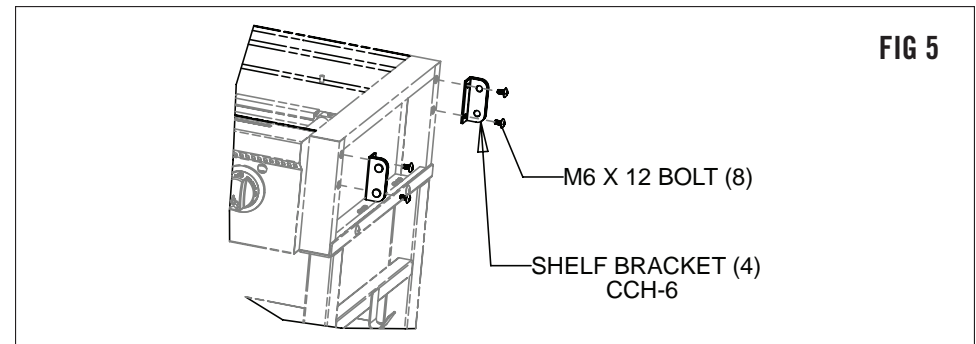

FIG 5
13. Install the 4 shelf brackets as shown in Figure 5. (Note: Leave the bolts a little loose until the shelves are installed.)